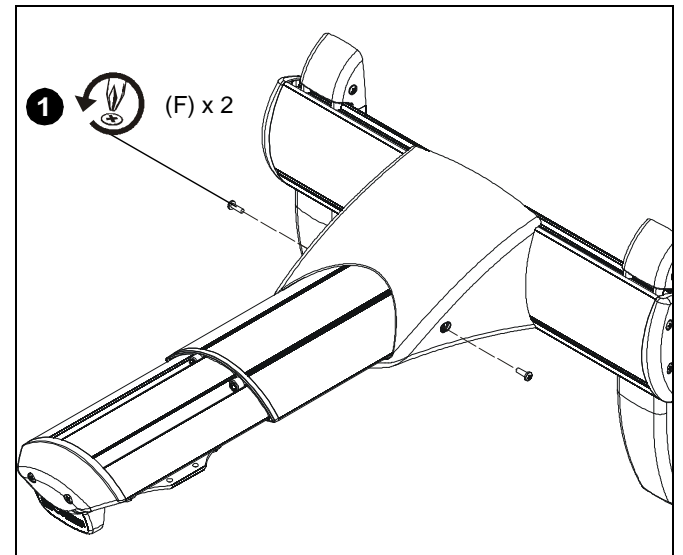

Figure 38
1. Remove two #8-32 x 1/2" Phillips pan machine screws (F) to free outer cover from mounting bracket. (See Figure 38)